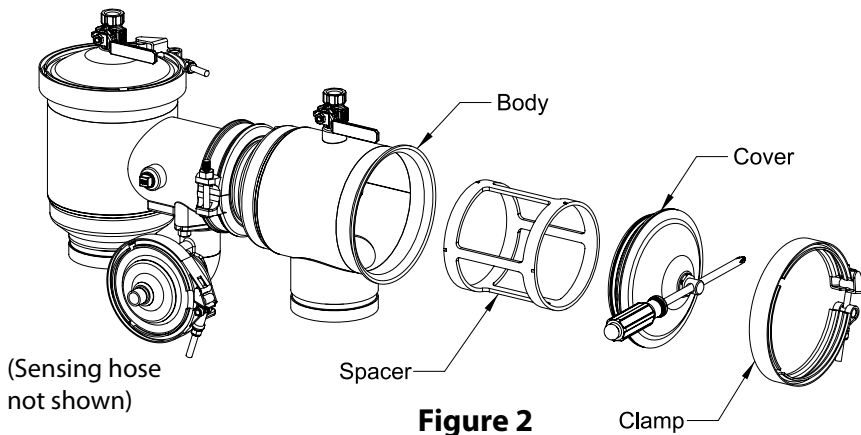

Figure 2
1. Remove the cover clamp by backing off the nut until the latch can be disengaged from the T-bolt. Pull the clamp apart and slide away from the valve. (See Figure 2)
2. Lift off the cover. A screwdriver will aid in lifting the 2nd check cover out of the body. (See Figure 2)